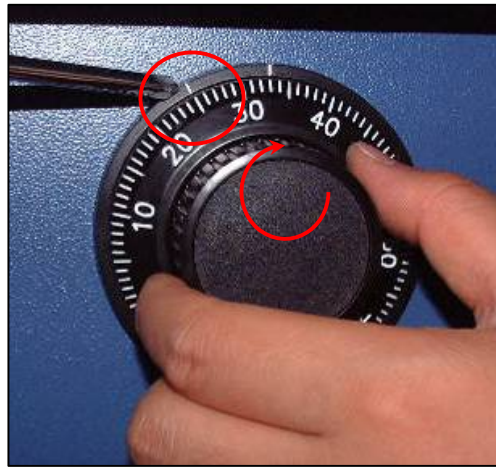

Fig.4.2
- 4) Turn to the clockwise and stop at "25" at the third time as shown in the Fig.4.2.